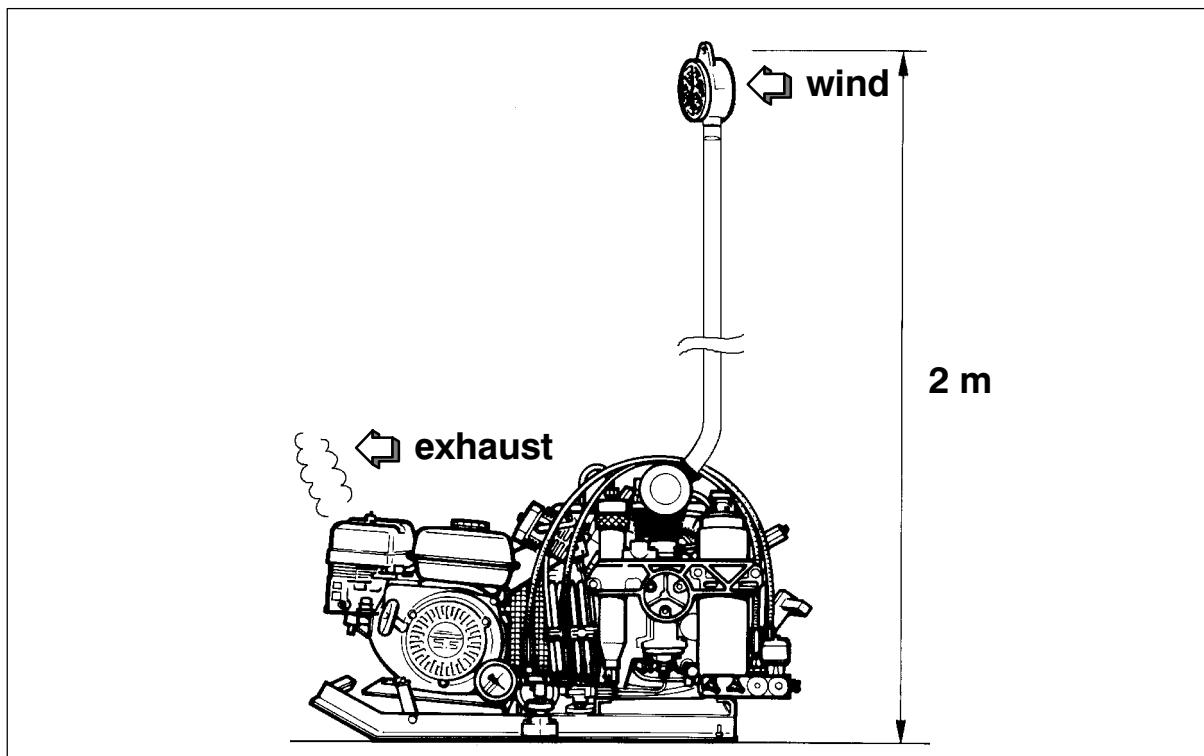

Fig. 36 Locating air intake hose
- On units employing petrol or diesel engine it is most important that only clean air be used, position compressor in direction of wind so that exhaust fumes are blown away from the unit. It is good practice to have intake hose of at least 3 m length with pre-filter and intake filter. Pre-filter to be located 2 m above ground. See Fig. 36. This arrangement will ensure necessary spacing between exhaust outlet and air inlet.